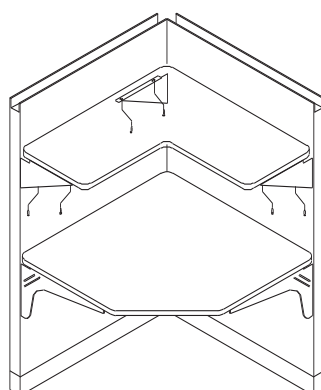

FIG. 3
7. Repeat the installation for all (3) cantilever brackets.
8. Set the corner bookshelf surface on the cantilever brackets and attach it to the brackets using (2) #12 x 1" screws in each bracket (Figure 3).